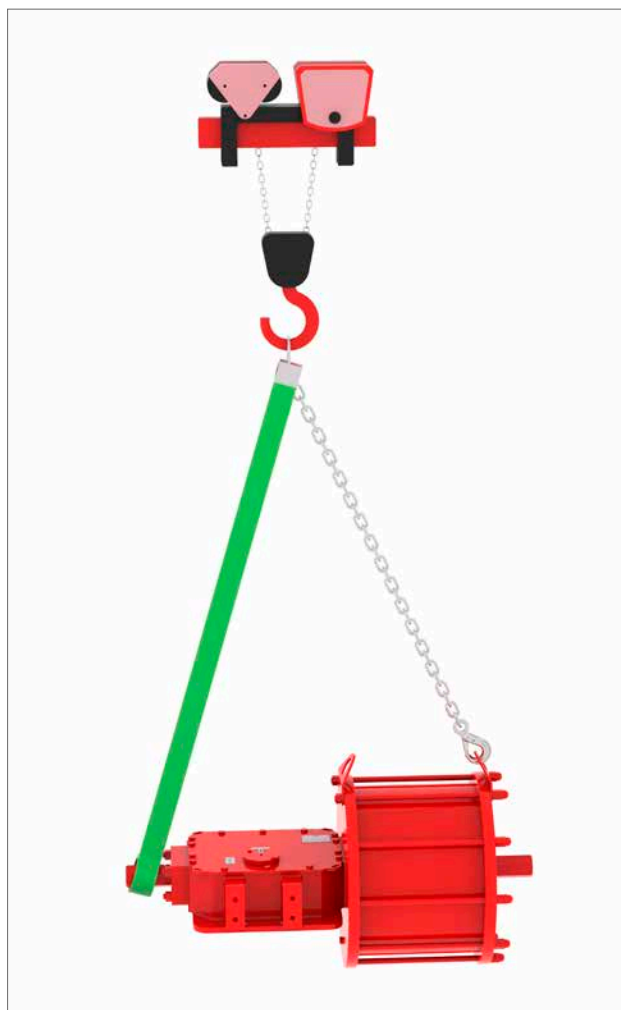

Fig 7.2 Lifting (double-acting actuator up to size 130)
- In case of double-acting actuator, hook a double chain sling on the lifting lug on the pneumatic cylinder and a textile sling on the centre body closure flange as shown in Fig 7.2